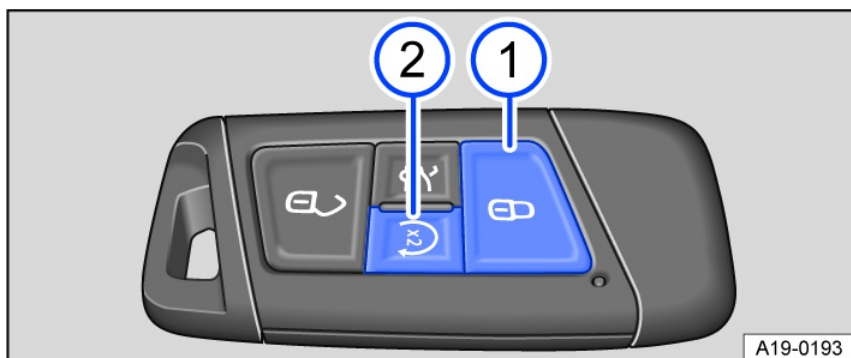

Fig. 112 Vehicle key with remote start relay function.
1. Press the  button once *fig. 112*.
2. Press the  button twice *fig. 112*.
1. Press the  button on the remote control vehicle key to switch off the engine *fig. 112*.